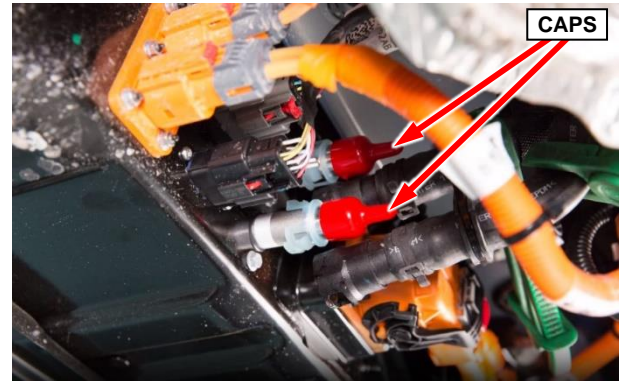

Figure 37 – Hose Fitting Caps
53. Cap the nipples on the high-voltage battery with the Covers, HEV Battery Terminal 2035100082 and plug the coolant hose ends (Figure 37).